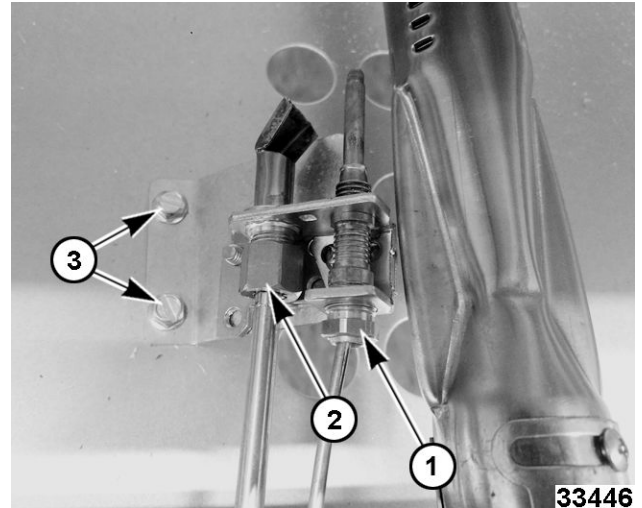

Fig. 9
5. Remove thermocouple nut (1, Fig. 9).
6. Remove pilot nut (2, Fig. 9).
7. Remove mounting bracket screws (3, Fig. 9) to remove pilot oven assembly.